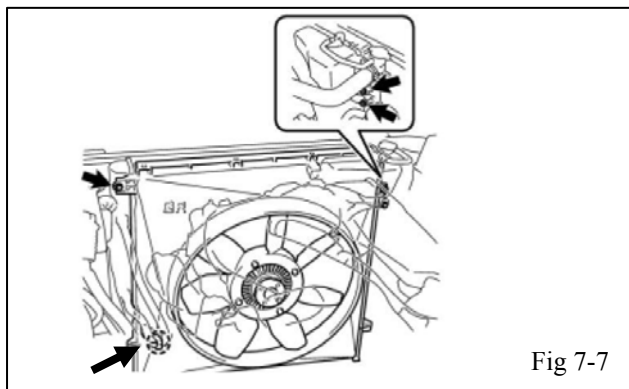

Fig 7-7
- (f) Remove the two bolts from the top corners of the fan shroud (Fig 7-7) and the bottom corner of the coolant overflow tank.